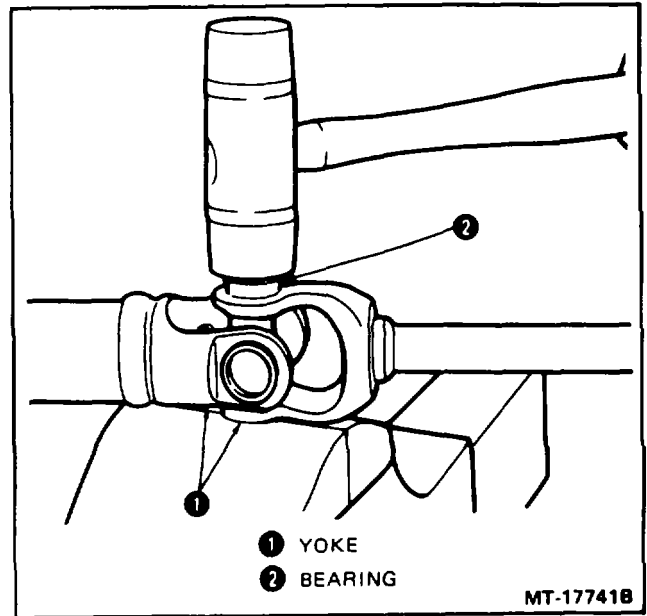

Figure 13 -- Install Bearing Part Way Into Yoke
- Rest yoke on hard surface. Tap one bearing part way into yoke with a soft hammer (Figure 13). Be certain bearings are straight in yoke.